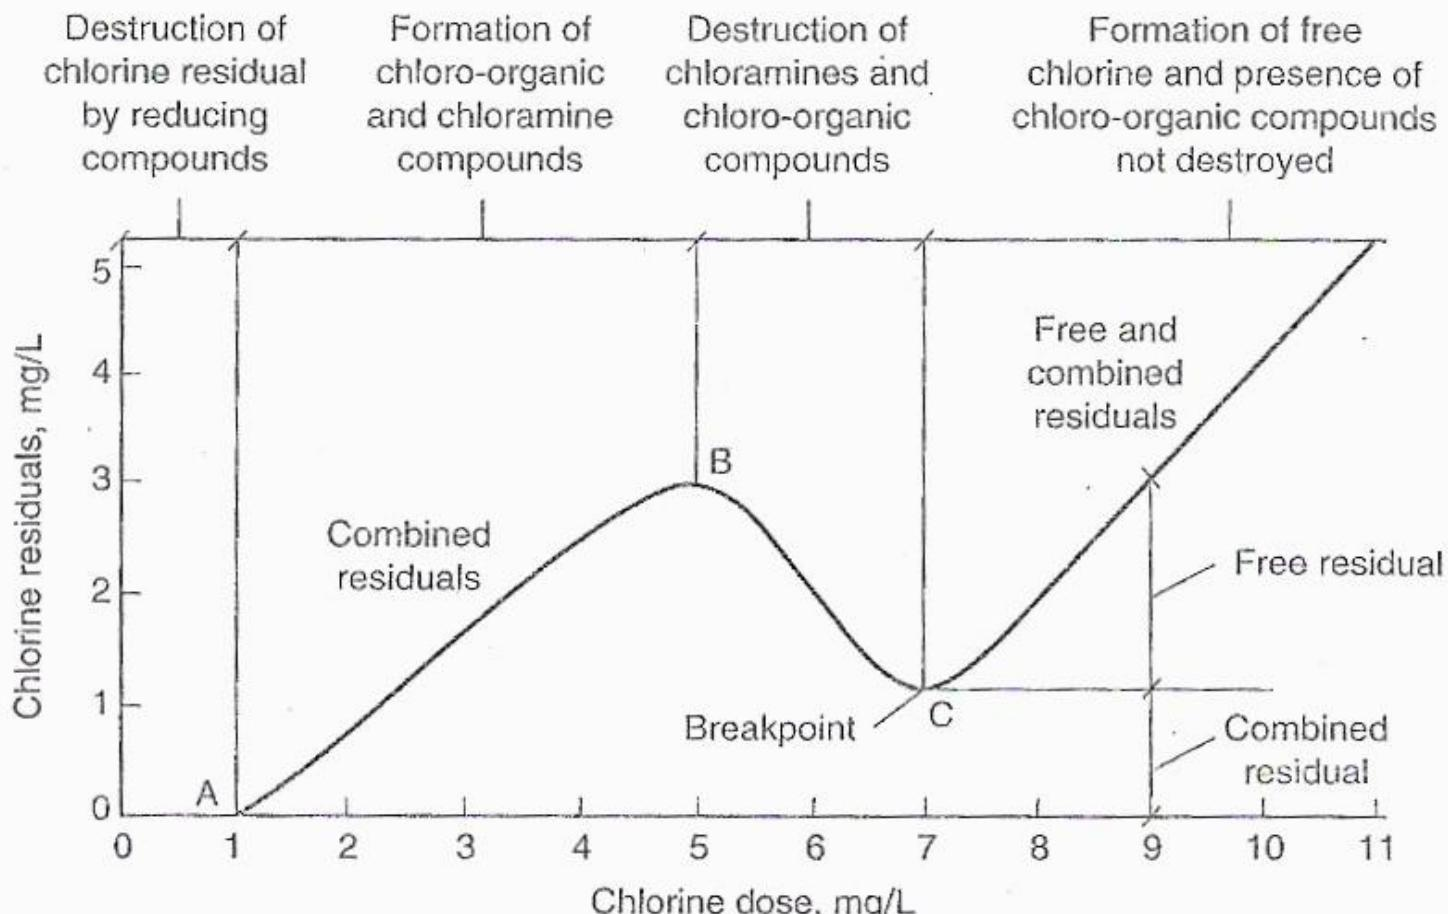

Figure 8.2 | Break-point chlorination
- As illustrated in the previous section, chlorine reacts with the substances existing in water. **Figure 8.2** shows the stages of these reactions.
- On Fig 8.2, The chlorine dosage is presented on the x-axis and the residual chlorine is presented on the y-axis.